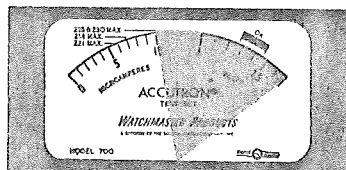
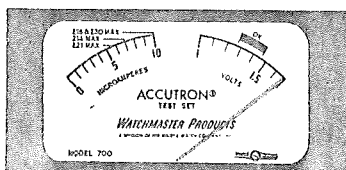

Fig. 21
Fig. 22
4. If the reading is above 10 microamperes (fig. 21 or fig. 22) *disengage* index finger from index wheel by turning the collet of the index finger.
5. Should the reading remain in the "EXCESSIVE CURRENT" (fig. 21) or "METER PEGS" (fig. 22) area, then the problem lies in the circuit and/or fork area of the movement: e.g. demagnetized fork, foreign matter, binding fork, metal particles clinging to magnets of fork or faulty circuit. A slightly higher than normal meter reading may occur as a result of exposing the movement to heat from a lamp or by being held in the hand for a long time. Allow movement to cool for ½ hour and recheck.